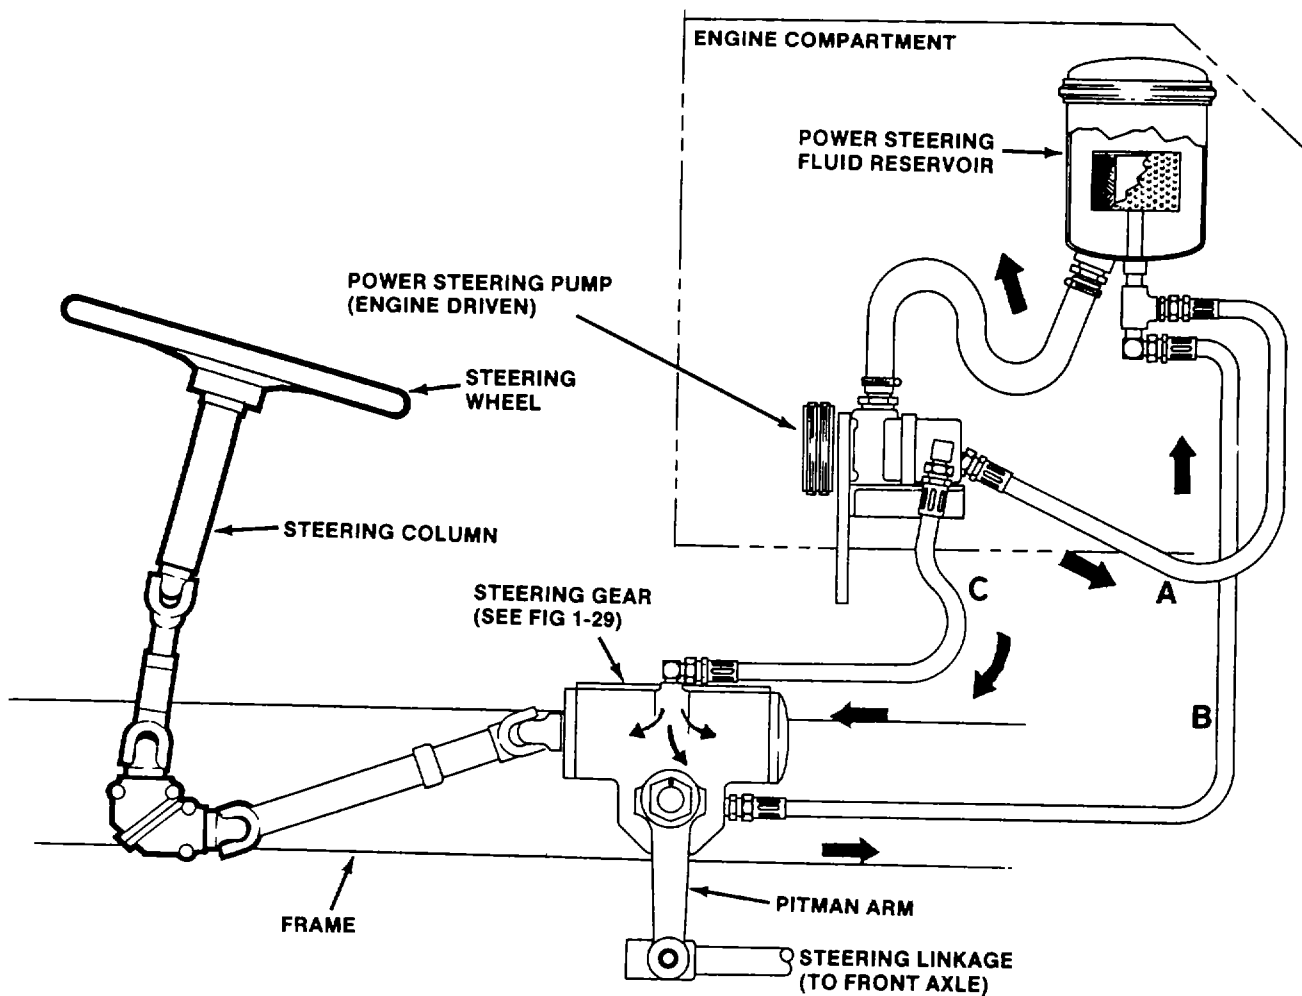

Figure 1-28. Power Steering System
(1) To reduce the force required to manually turn the front wheels, the steering system is provided with a hydraulically-operated power assist system, (see fig. 1-28). Hydraulic fluid from the reservoir is pressurized by a vane-type power steering pump. From the pump, this fluid is supplied to the steering gear (line C) where it flows through an internal piston and valve assembly. From the gear, the fluid is returned to the reservoir (line B).
(2) To ensure that the working pressure of the hydraulic flow is maintained below a set limit, the pump is equipped with a pressure relief valve. This valve is connected with a drain line (line A) back to the reservoir.
(3) To remove solid contaminant from the system, the reservoir is provided with a replaceable internal filter.